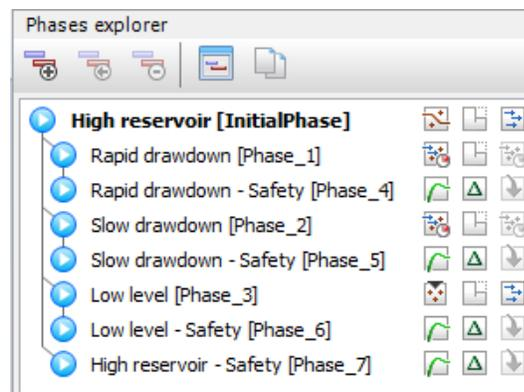

Figure 111: The final view of the Phases explorer
7. Follow the same procedure for Phases 5 to 7 as shown in Figure 111 (on page 139).